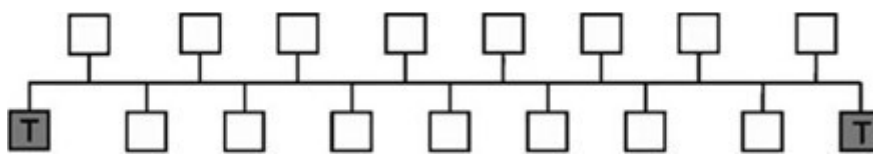

Fig. 85: LON nodes in bus topology with terminators
Bus network: LON nodes that have a direct relationship with each other should be directly connected to each other. The greatest distance can be achieved using a bus topology as shown in Fig. 85. To prevent the signal from being reflected back at the end of the cable, terminators (T) with a resistance value of  $R = 107 \Omega$  are placed at both ends of the bus cable.